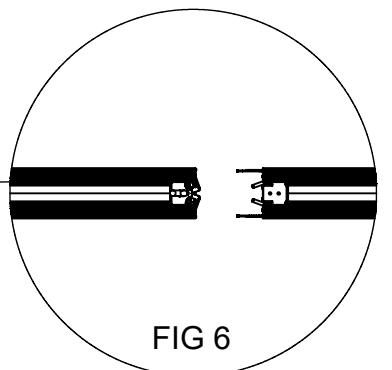

FIG 6
5. Suspend the next fixture sengment and connect to the previous segment by sliding the segments together and fastening the two hex nuts (See FIG 6 & 7)